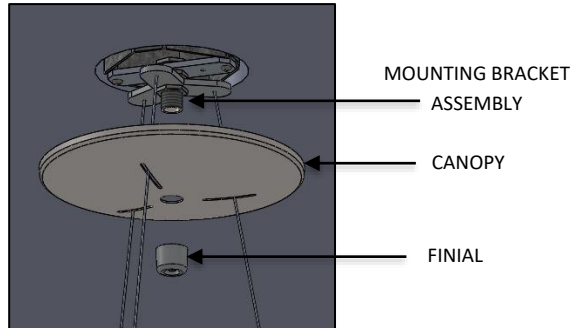

FIG. 13 – CANOPY DISASSEMBLY
7. Once the LOOP BODY is secured to the AIRCRAFT CABLE (3) at the GRIPLOCK (3) Unthread the FINIAL from the MOUNTING BRACKET ASSEMBLY and lower the CANOPY as shown below in FIG. 13.